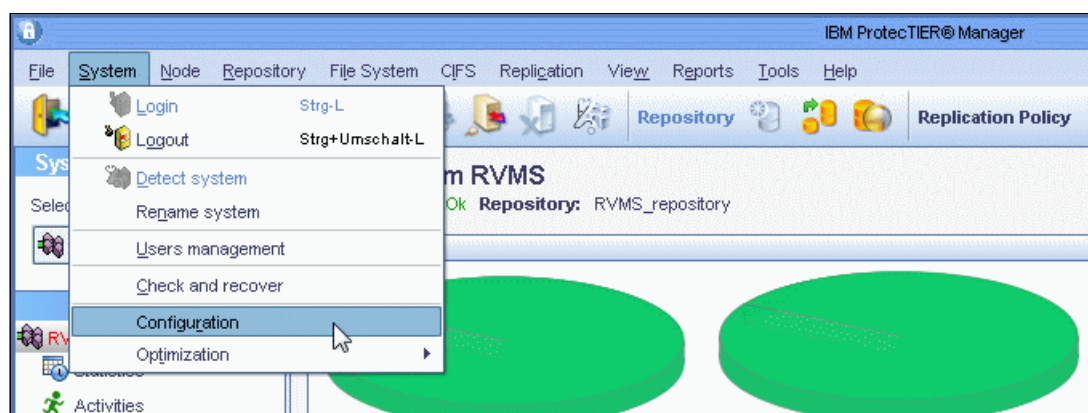

Figure 2-4 ProtecTIER Manager GUI
1. To access the configuration window, click **System** → **Configuration** in the ProtecTIER Manager GUI, as shown in Figure 2-4.